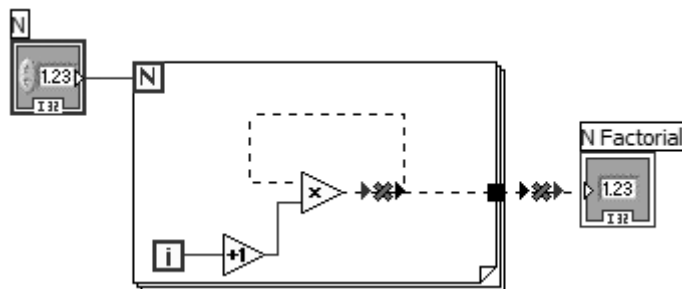

Figure 6.22
Generally, LabVIEW does not allow you to create a “cycle,” where the output of block of code is used as the input for the same block of code—and attempting to do so will cause wires to become broken. You can see an example of a “cycle” in Figure 6.22. The cycle is broken due to the data flow rules, which state that (1) a node cannot execute until data flows into all of its input terminals and that (2) data does not flow out of a node’s output terminals until the node finishes executing. Because a “cycle” uses the